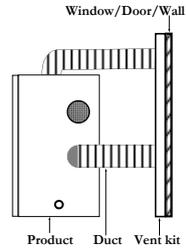

Figure 3. Installation of the product using a vent kit.
- The ventilation kit can interface with the outdoors through a window, door or wall as illustrated in Figure 3. If the product is vented through a wall, the customer is responsible for complying with all applicable codes.
- To power the product, connect the plug of the power supply cord (E) to the electrical mains (~120V AC, ~60Hz). To shut down the product, disconnect the power supply cord (E) from the electrical mains.